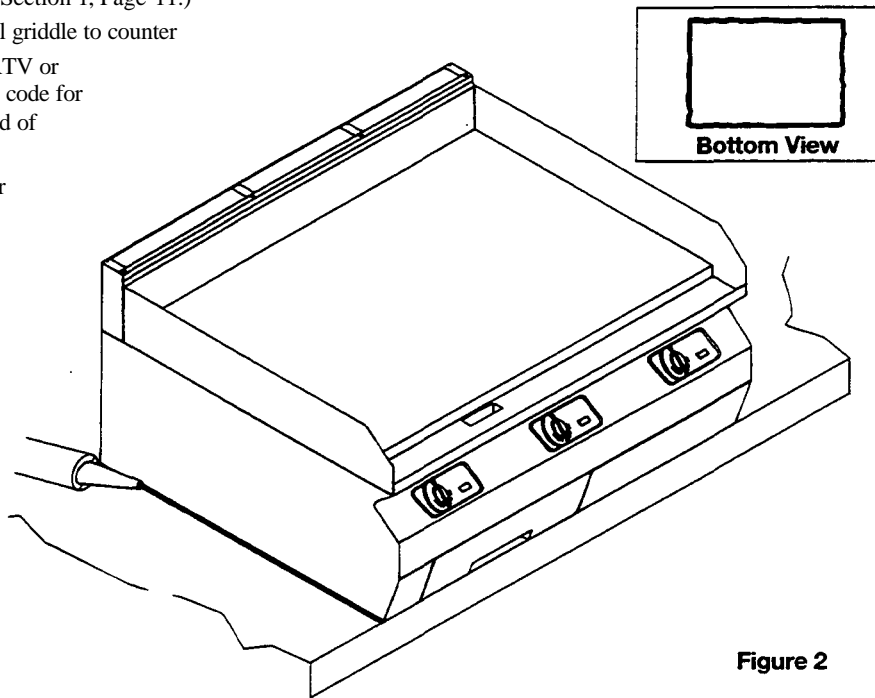

Figure 2
3. After making gas connection, seal griddle to counter top using G.E. or Dow Corning RTV or equivalent. (NOTE: Consult local code for exact requirements.) A small bead of RTV around edge of griddle bottom should be adequate. Refer to Figure 2 below.